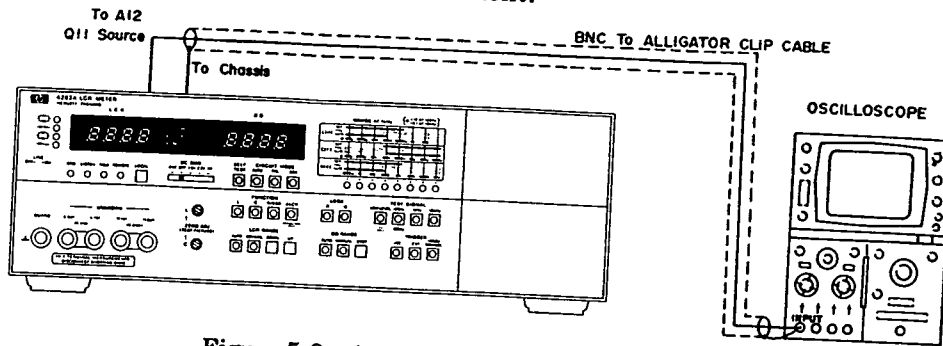

Figure 5-3. A12 Board Offset Adjustment.
- a. Connect BNC to dual alligator clip cable between oscilloscope and transistor A12Q11\* source on the A12 Range Resistor Board Assembly (See Figure 5-3).